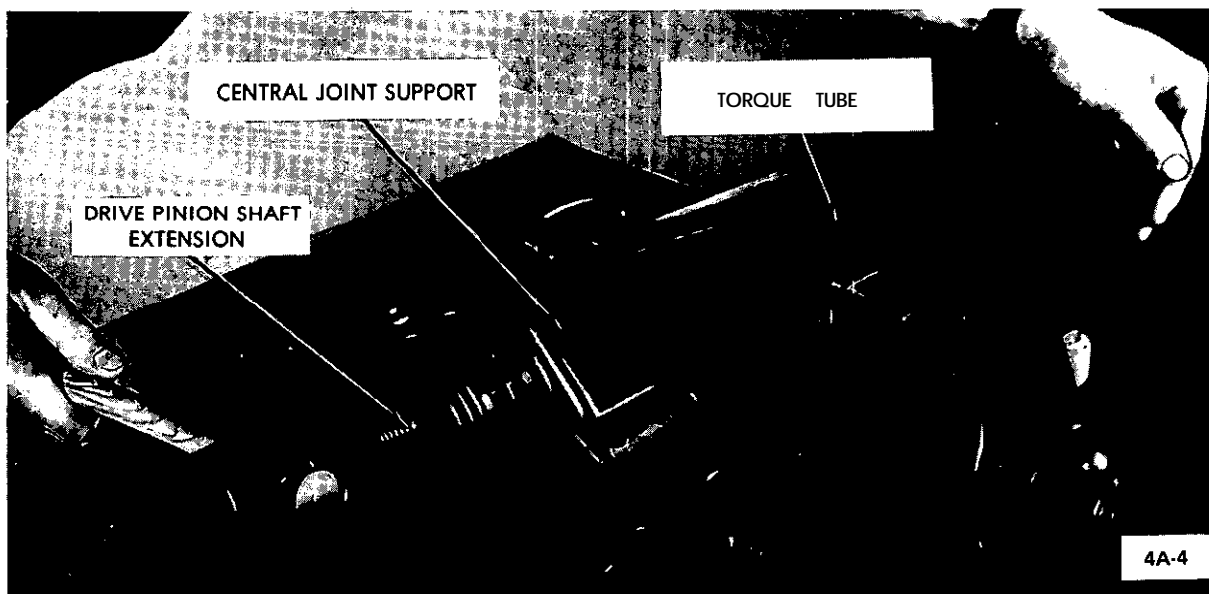

Figure 4A-4 Removing Drive Pinion Extension Shaft
1. Check condition of support cushions. If new cushions are installed, torque to 29 lb. ft. See Figure 4A-6.